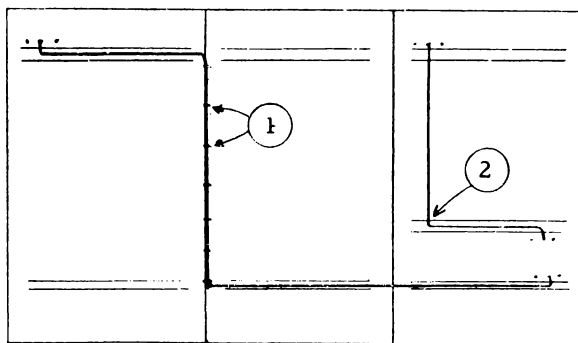

Figure 3-18
g. Inter-Module Coax Assembly will have its vertical travel in Cable Straps provided for them at the right hand side of each Module. (1, Figure 3-18.) Use shortest available coax assembly leads (yellow and black) to allow shortest path to termination with sufficient amount of slack to maintain flexibility in positioning wires. This practice is commensurate with good wiring standards. This vertical travel will take place on the right hand side of that module which is the left hand termination point of the Coax Assembly. Inter-module coax signal wire leads crossing the frame break will be labeled with a piece of sleeving 5/8" in length or easy marker which has been stamped to designate the row and edge connector termination. The sleeving will be slipped over the yellow lead of the coax. The black lead will not be labeled.
h. Intra-module Coax Assembly traveling vertically passes through spring clips at the base of resistor boards. When arriving at the resistor board nearest to its terminating point, it will enter the board via the spring clip, pass horizontally to the rectangular opening nearest its terminating point where the coax leads will then pass through. (2, Figure 3-18.) The terminating leads of the Coax Assembly will be considered as back panel wire and will adhere to paragraphs governing back panel wire.